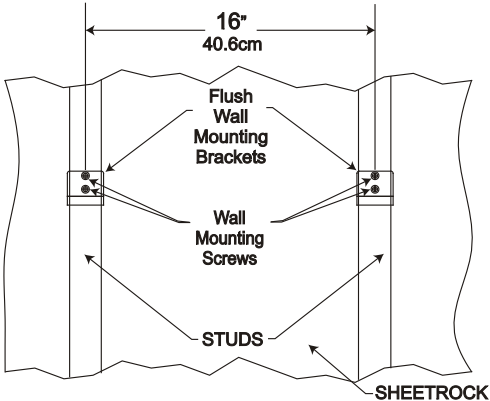

Figure 10
- Refer to figures 10 thru 15 to install the appropriate Wall Bracket on the wall (orient the bracket as illustrated) using the supplied Mounting Screws. If the Flush Mount Bracket is used, attach the two rubber bumpers to the rear of the Loudspeaker, near the bottom.